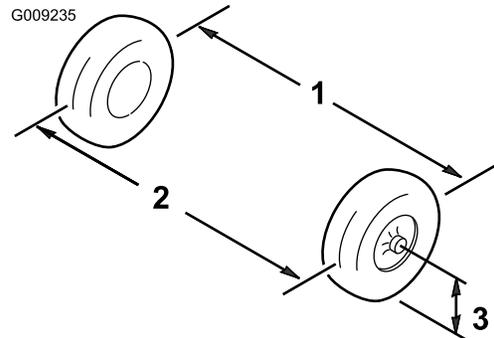

Figure 59
1. Measure the distance between both of the front tires at the axle height at both the front and rear of the front tires (Figure 59).